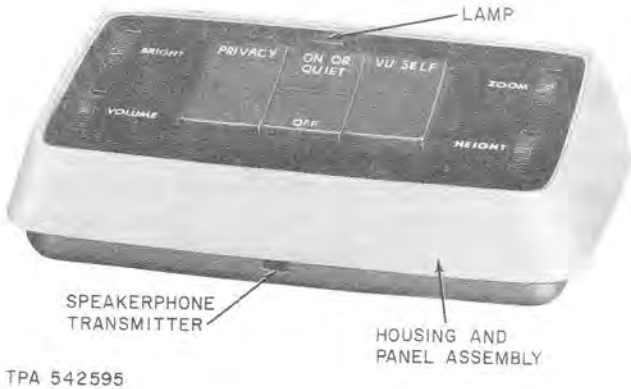

Fig. 2—72A Control Unit
**1.05 72A Control Unit (Fig. 2):** Contains the controls for operation of the 1A display unit and the speakerphone. Weight: approximately 1/2 lb. This unit is available in the same colors as the display unit.